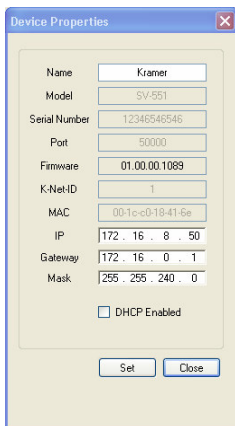
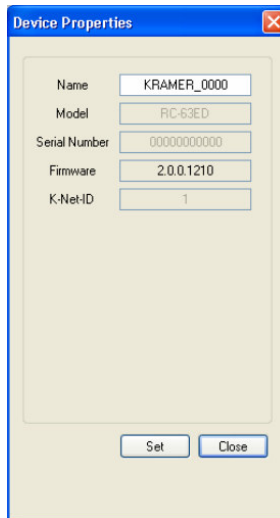

Figure 45: Device Properties Window
Figure 52: The Device Properties Window in the Stand Alone Mode
To connect a device, open the Device menu and click Properties. The Device Properties window Appears (see Figure 45). Figure 52 shows the Device Properties window in the stand alone setup.
6. Upon completion, open the Device Properties window (see Figure 45) to make sure the firmware was upgraded¹.
Figure 52 shows the Device Properties window in the stand alone mode: